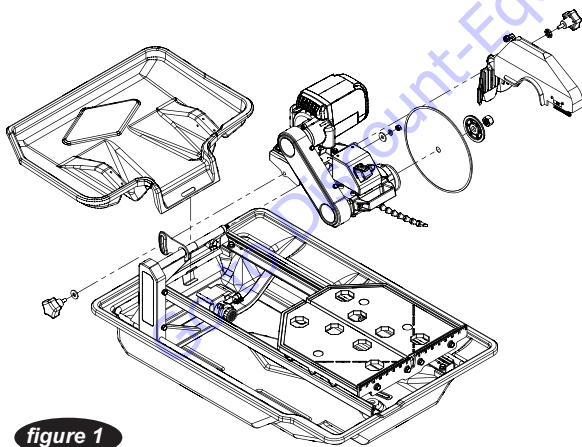
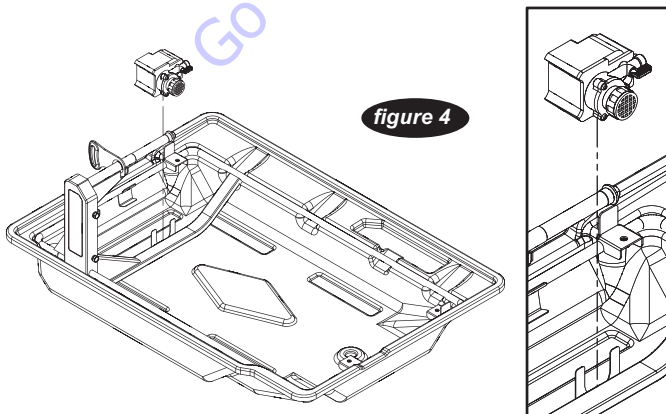

figure 1
figure 4
1. Slide water pump onto U-shaped bracket located at the bottom of the frame. **(see figure 1 or figure 4)**
- Slide the pump onto the U-shaped bracket located at the bottom of the frame. The pump should be oriented such that the water outlet is horizontal. (see figure 4)